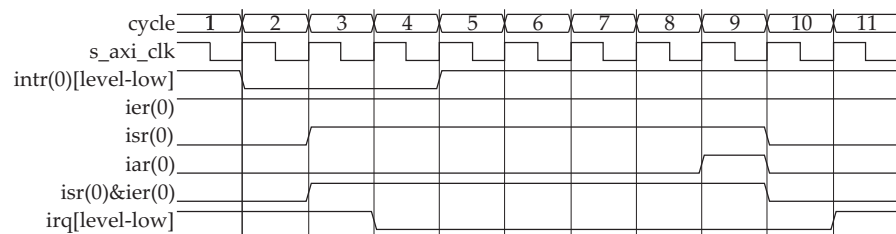

Figure 18: Input Intr - Level Sensitive (Active Low) and Output Irq - Level Sensitive (Active Low)
8. Configured Input Interrupt (Intr) for Level sensitive (active Low) and Output Interrupt Request (Irq) to Level sensitive (active Low) and is shown in Figure 18.